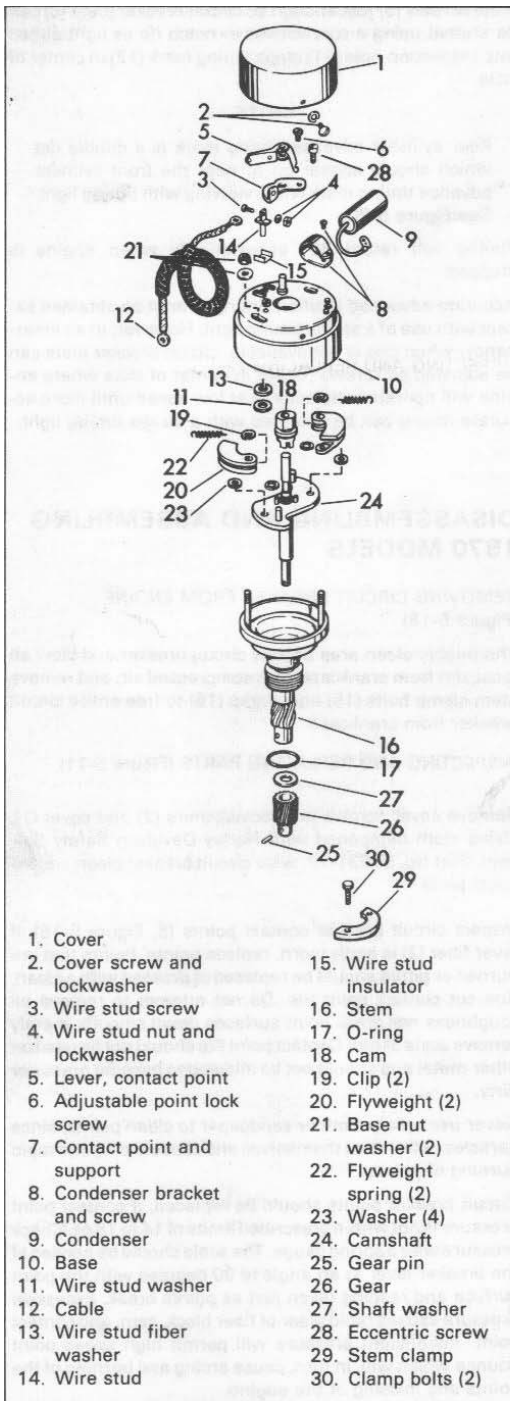

Figure 5-21. 1970 Circuit Breaker - Exploded View
INSPECTING AND REPLACING PARTS (Figure 5-21)
Examine the circuit breaker base pivot stud (13) for wear or damaged condition. Try circuit breaker base (10), Figure 5-21 in stem (16) for free turning, but not loose fit. If base is found excessively worn or damaged in any way, renew it.
Examine the coil to circuit breaker low tension wire (12, Figure 5-21) for brittle or cracked insulation and broken strands and replace if defective. Inspect circuit breaker wire stud insulator (15) and fiber washer (13) for brittle or cracked condition. Unless inspection shows insulation defective, it is not necessary to remove stud, insulator and washers.
If renewal of shaft or stem parts is necessary remove pin (25) from gear and lift or press circuit breaker camshaft from gear. Withdraw camshaft from base. If bushings have excessive wear, timer stem assembly can be replaced or stem assembly can be rebushed by drifting out old bushings and installing new bushings. New bushings should require no reaming. When reassembling gear and breaker camshaft use spacer washer (27, Figure 5-21) (.062 thick), (.066 thick), (.072 thick) or (.076 thick) to obtain a .001 to .007 in. shaft end play.
INSTALLING CIRCUIT BREAKER (Figure 5-21)